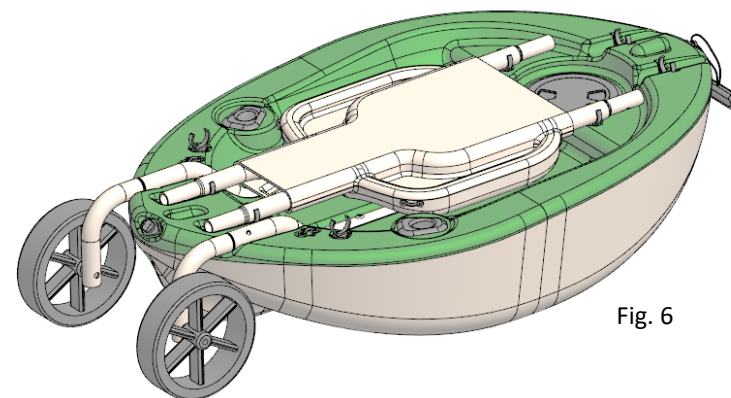

Fig. 6
- 6) Insert the reduced ends of the **LEFT** and **RIGHT WHEELS** into the frames on the **BACK FLOAT** until the spring pins that are installed in each snap into the holes in the **BACK FLOAT** frames and secure them in place (fig. 6).